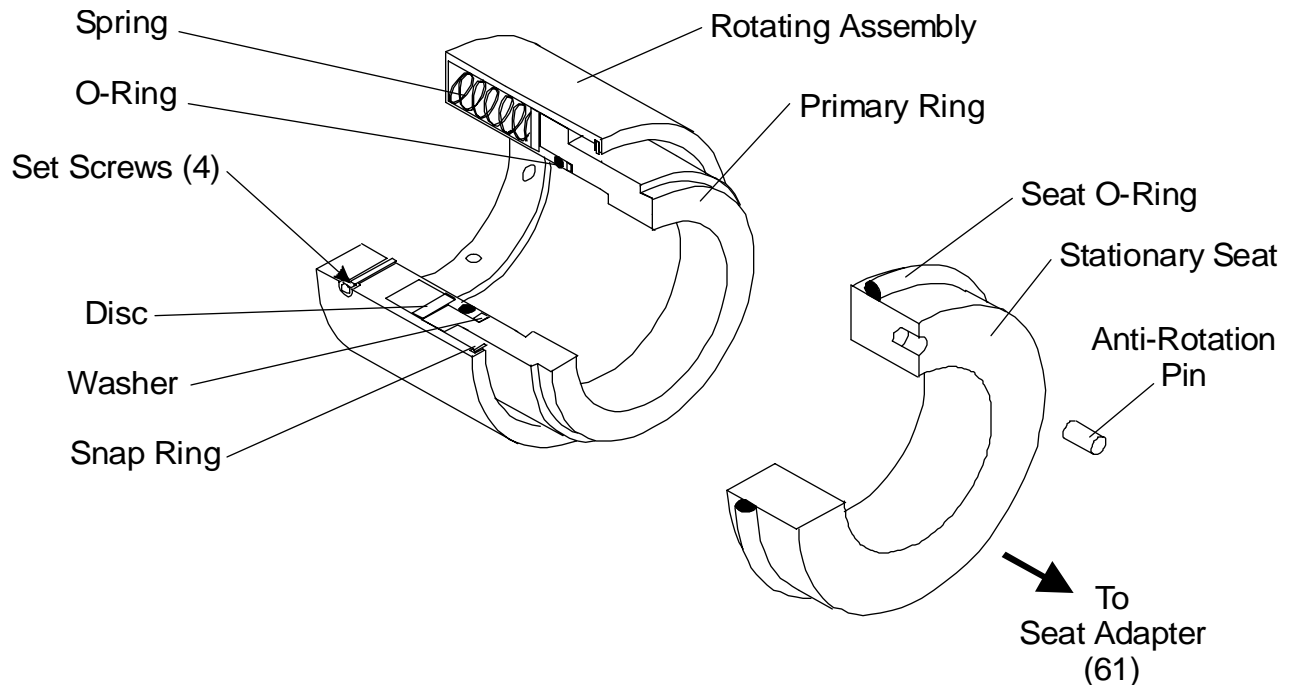

Figure 3 – Mechanical Seal (12) Details
Loosen the four set-screws holding the mechanical seal (12) on to the power rotor (10). See Figure 3. Slide mechanical seal off the power rotor. Remove shim (23) and retaining ring (22) from power rotor (10) shaft.
Loosen the four set-screws on the mechanical seal (12). See Figure 3. Rotate seal and slide off shaft of power rotor (10).
- Remove inboard cover (4) from case (1).
- Remove O-ring (3) from inboard cover (4).
- Remove bushing (5) from inboard cover (4).
- Remove two idler rotors (11) from housing (2).
- From outboard end (suction side) pull thrust plate (51) and housing (2) from case (1).
- Disassemble two cap screws (19), thrust plate (51), two spacers (17) and O-ring (3) from housing (2).
Slide inboard mechanical seal (12) rotating assembly on power rotor (10) shaft (see Figure 3) until it contacts rotor balance piston.